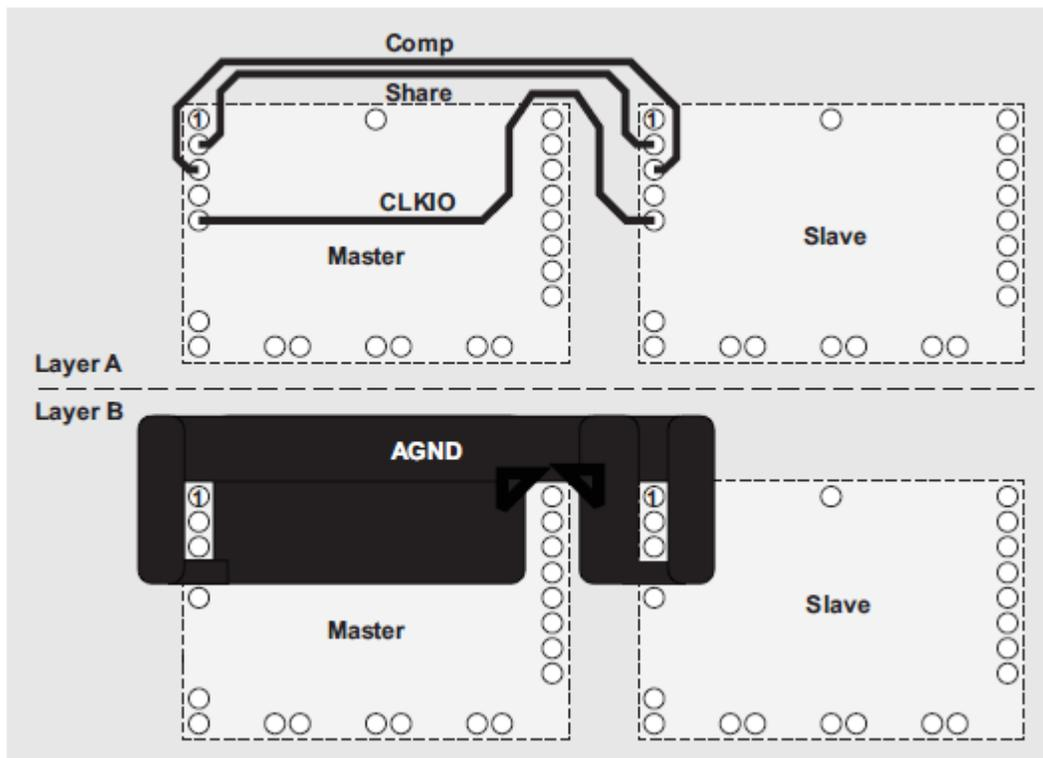

Figure 11. Board Layout Interconnection Pins
- See Figure 11 for an example layout of the interconnection pins. The three interconnection traces are routed on one layer, and the AGND is routed as a copper area that shields the three traces on an adjacent layer. When multiple modules are operated in parallel, an eight-layer layout with 2-oz. copper is recommended to improve thermal conduction. Increased copper thickness is required to distribute the higher current over the power planes. Increased airflow is also strongly recommended to help the copper remove the heat associated with the higher power solution.
When multiple modules are operated in parallel, the control of each device feature is set only on the master device. A device is configured as a master by connecting the Config pin to the power GND. All slave devices must connect the Config pin to VIN. The slave devices must leave all other control pins open (connect the SmartSync pin to the GND). See Table 2 for pin connections of the master and slave modules. See Figure 11 in the Section 5.3 section.